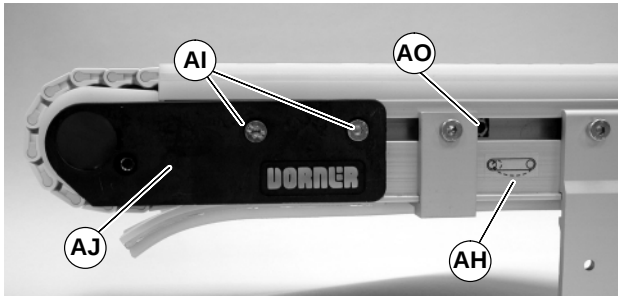

Figure 23
1. On tension end of the conveyor, identified with a  label (AH of Figure 23), on both sides of conveyor, loosen fastening screws (AI). Insert 5mm Hex wrench into pinion gear (AO) and rotate to extend head plate assembly(AH).
3. After adjusting proper tensioning, tighten fastening screws (AI of Figure 23) on both sides of conveyor to 60 in-lb (7 N-m).